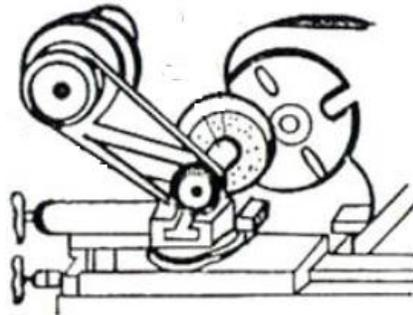

Figure Turn-25: hold a grinding wheel on the turret
3. As in figure Turn-25, a grinding device -with a special electric motor- must be fixed on the carriage instead of the turret as shown in following figure.